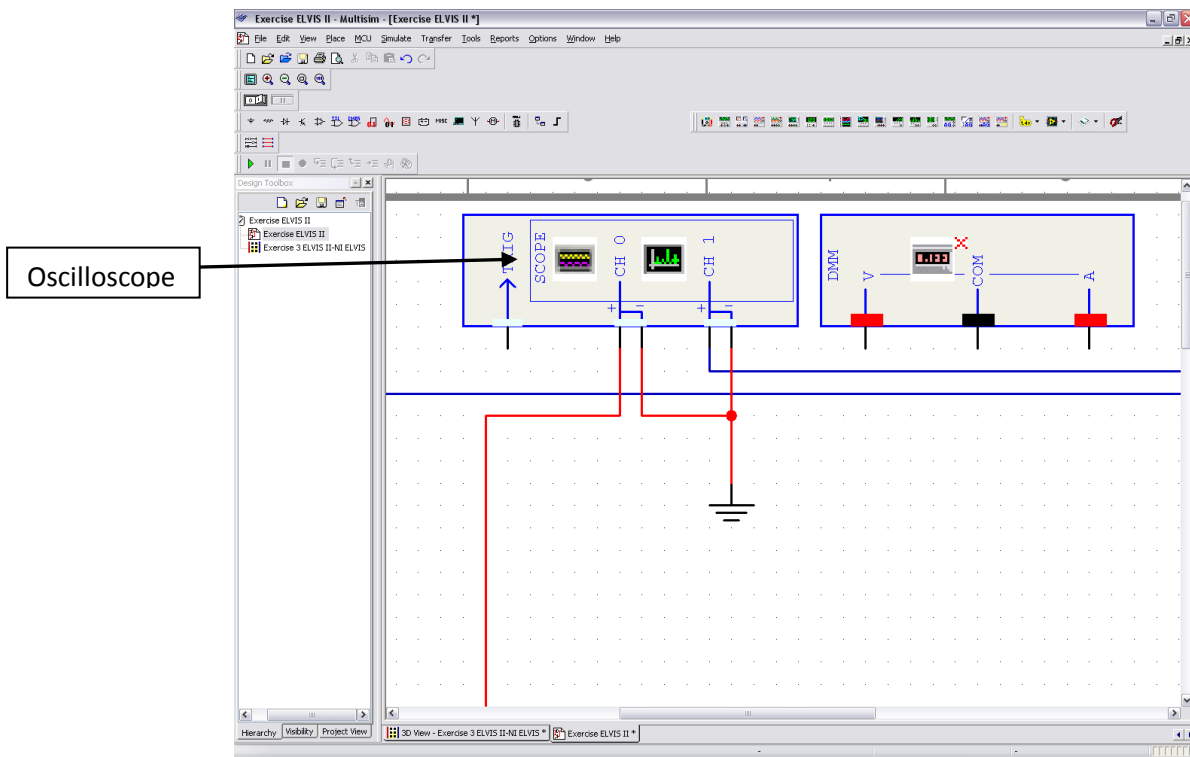

Figure E3-8. ELVISmx Oscilloscope Icon
- h. Double click the **oscilloscope** to bring up the oscilloscope soft front panel. The oscilloscope icon is shown in Figure E3-8.